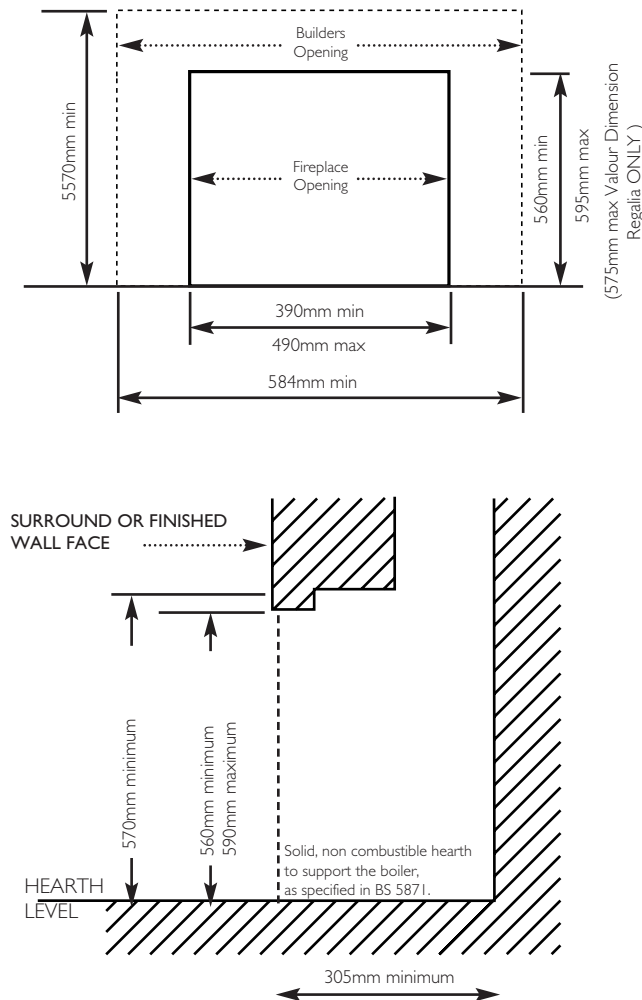

Fig. 9
1. If a fireplace surround is to be used, it must be centrally placed and have opening sizes as shown in Fig. 9.